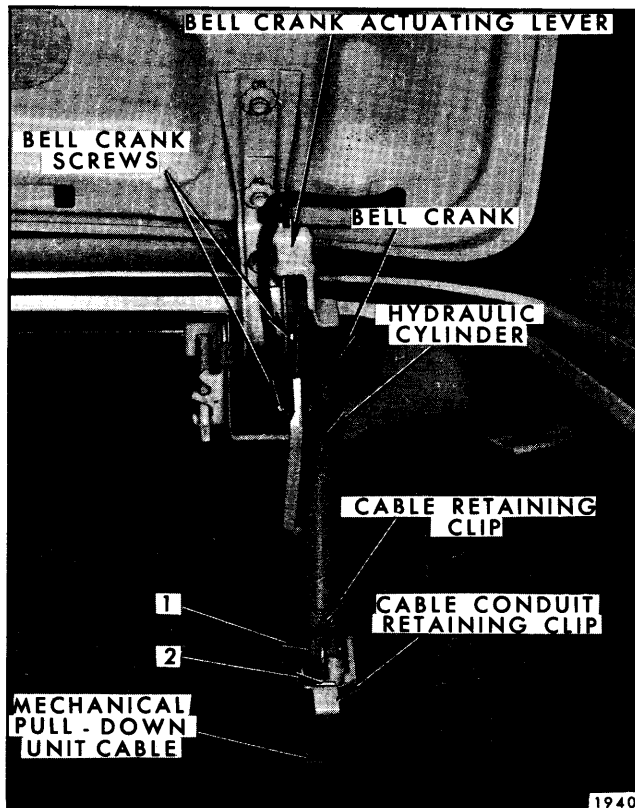

Fig. 8-18—Mechanical Pull-Down Unit Hydraulic Assembly - Cadillac Styles with Option
1. On lower end of hydraulic cylinder pull clip away from hooked end of pull-down unit cable. Disengage cable from slot in cylinder. Disengage cable conduit retaining clip from support on wheelhouse and remove cable and conduit from support (Fig. 8-18).